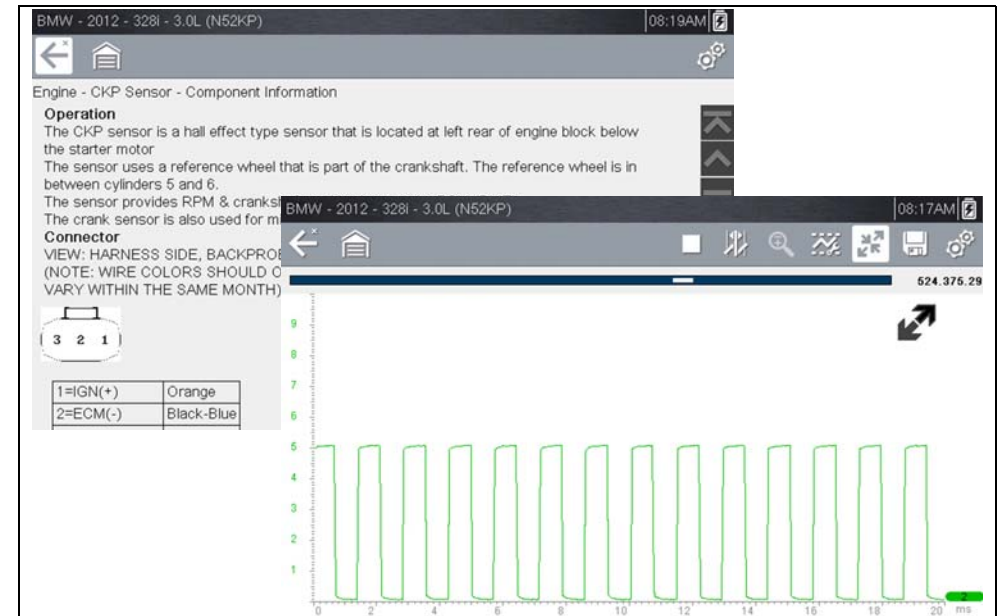

Figure 11-9 View Options
3. Tap on the Information Panel once to display the information panel in full screen view. Tap on it again to return to split view. The **Expand/Collapse** icon can also be used to toggle through split and full screen views (Figure 11-9).